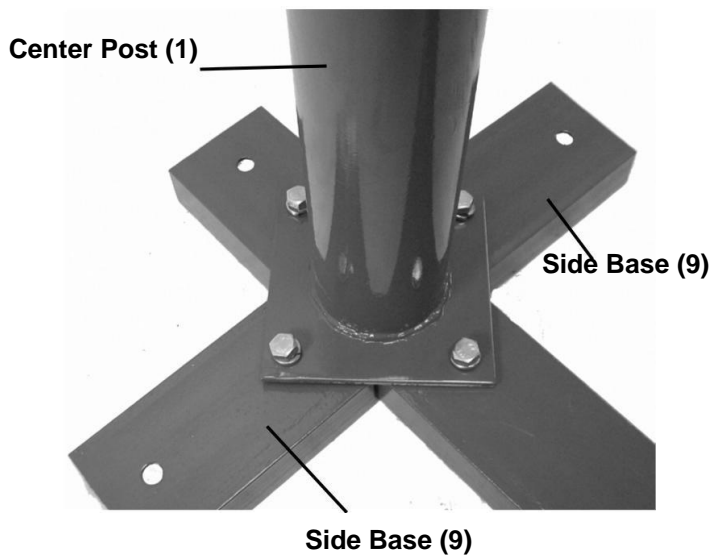

Figure 3
4. Set each of the Side Bases (9) along either side of the Post Base until the holes align. Fasten together using the Hex Bolts (6), Washers (11), and Nuts (12). See Figure 3, below.